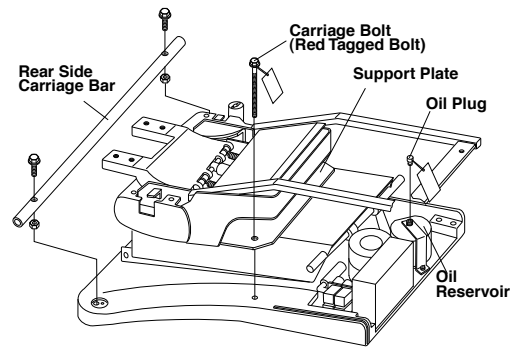

Fig.4-3 Removing Red Tagged Bolt
- (4) Remove the rear side carriage bar from the base. (Fig.4-3)
- (5) Remove the carriage bolt (Red tagged bolt) from the support plate. (Fig.4-3)
- (6) Remove the red tagged oil plug from the oil reservoir. (Fig.4-3)